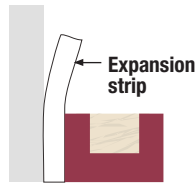

FIG 7
- 9** Place the expansion strip around the perimeter of the room between the wall and the cradles (Fig. 7). Expansion strip is not required when installing a system with a sports board finish.